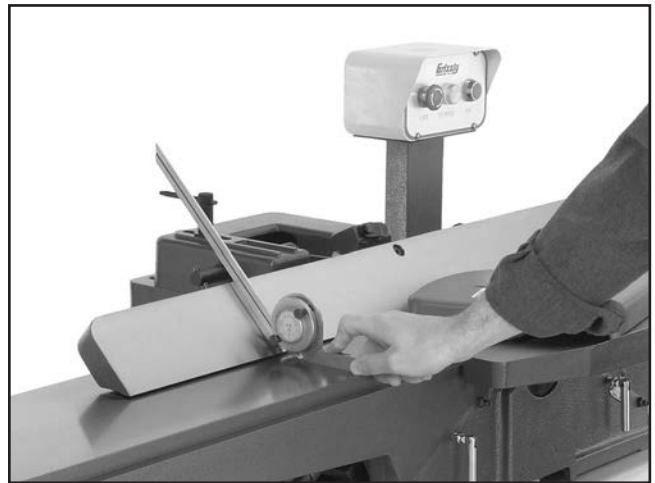

Figure 54. Adjusting fence 45° outward.
1. Using a sliding bevel adjusted to 135°, adjust the fence to the 135° (45° outward) position, as shown in **Figure 54**.